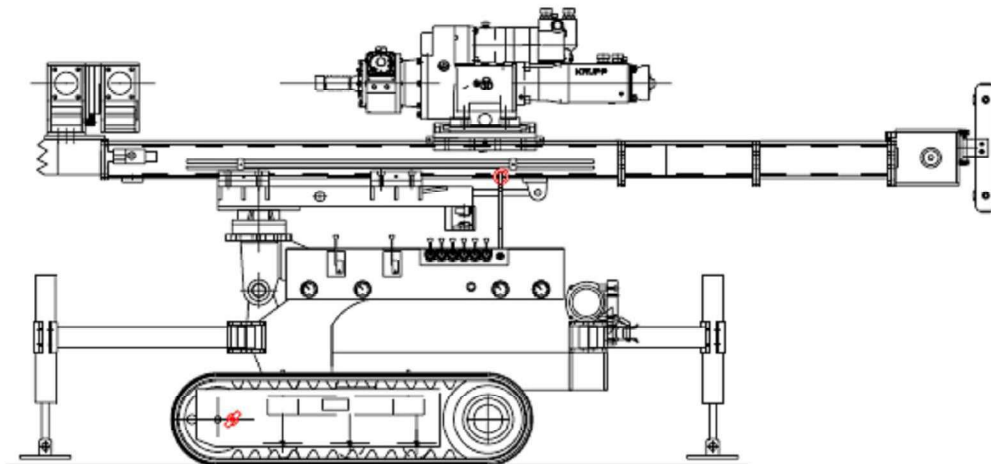

Figure 4.2: Transport position
- The parking configuration is displayed in Fig. 4.2.: the machine must be horizontal and the mast placed on its relevant support. We advise deploying the hydraulic jacks for greater stability.